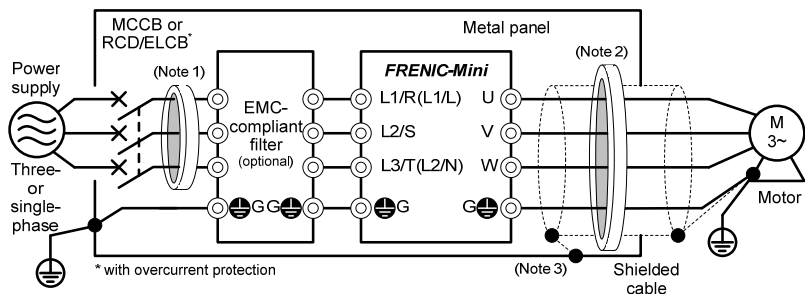

Figure 11.1 Installing the Inverter with EMC-compliant filter into a Metal Panel
- 3) If noise from the inverter exceeds the permissible level, enclose the inverter and its peripherals within a metal panel as shown in Figure 11.1.